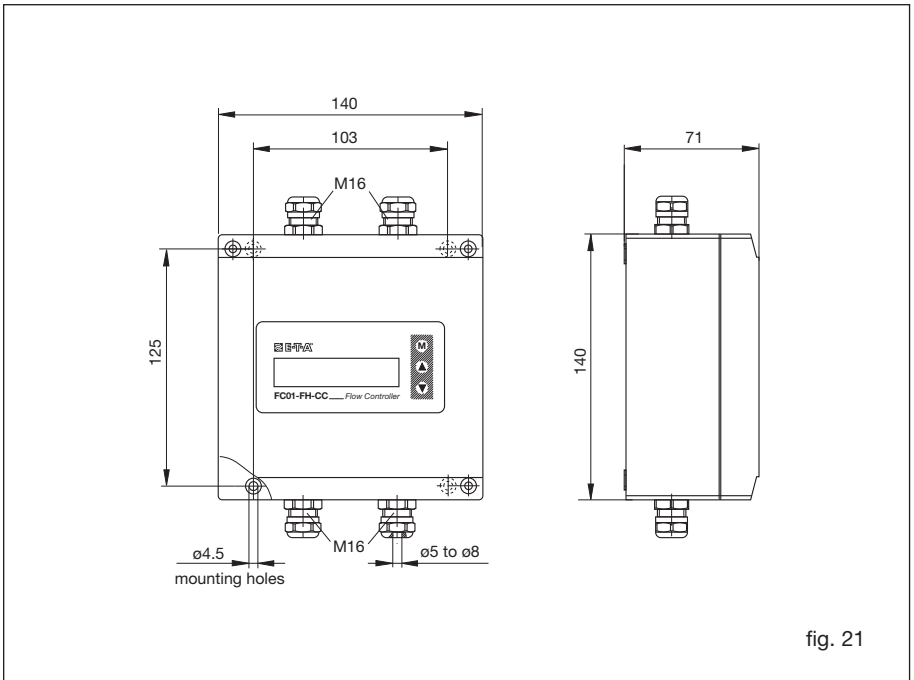

fig. 21
- Install the housing in place using the 4 self-tapping screws M4 (see fig. 21).